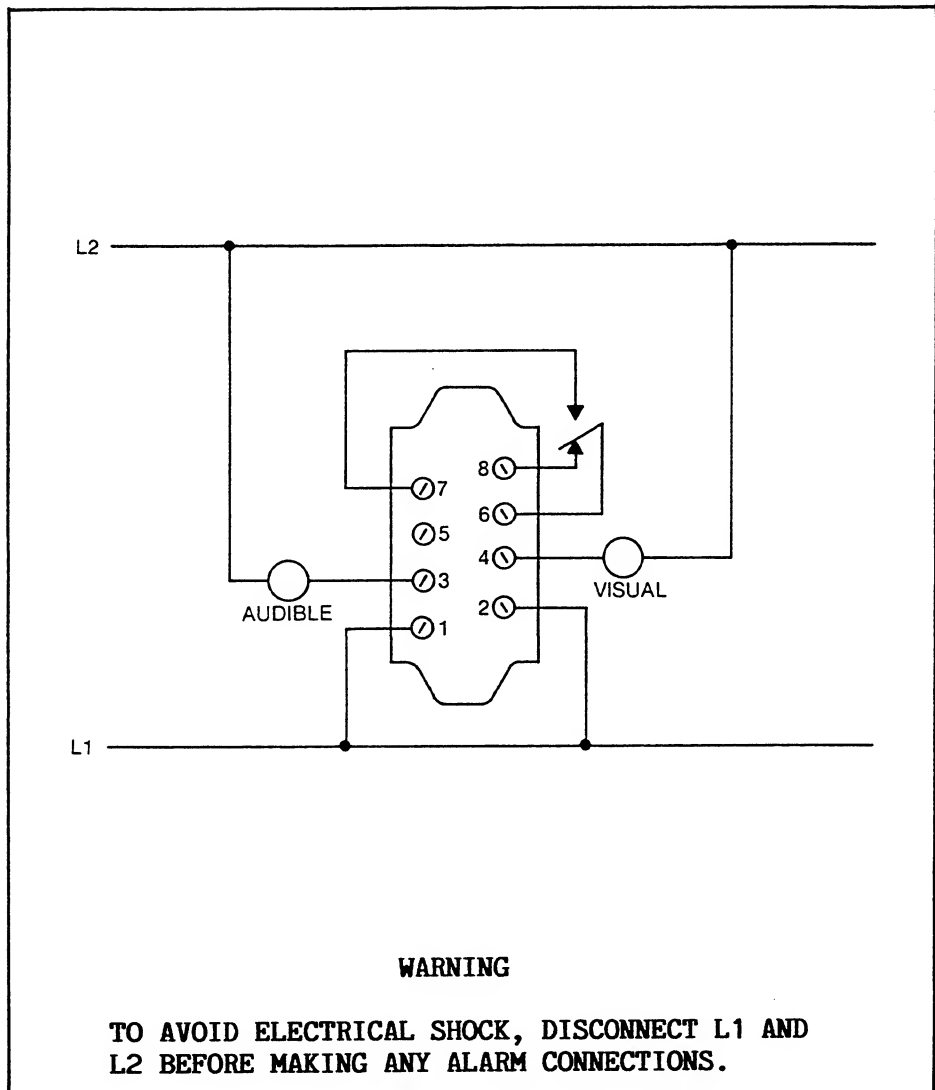

Figure 3-7. Typical Alarm Wiring
The alarm annunciator is connected as shown in Figure 3-7. Use maximum wire size of 12AWG, stripped to expose a maximum of 1/4 inch (6.4mm) of bare wire. Caution must be exercised to insure that all strands of the wire are properly inserted in the connector opening. The clamping screw must be turned all the way down to insure that the wire is properly secured in the connector.
- o The alarm acknowledge sequence requires, first, that a connection be made between pins 8 & 6. This connection must then be removed and a connection made between pins 6 & 7. This connection must now be removed and the connection between pins 8 & 6 re-established. This is the action that occurs when a single-pole/double-throw pushbutton is used, as shown in Figure 3-7. This sequence of actions is required to prevent the alarm acknowledge contacts from being permanently wired in the acknowledged position. For safety reasons, operator action is required to acknowledge the alarm.